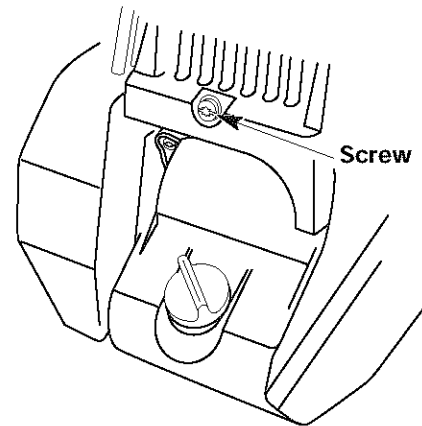

Fig. 38
3. Remove the screw behind the engine cover (Fig. 38).